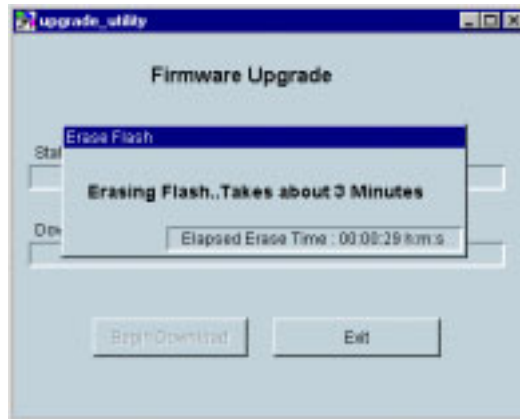

Figure 6-3. Erasing Flash
3. Open the selected code file, and the window shown in Figure 6-3 is displayed.